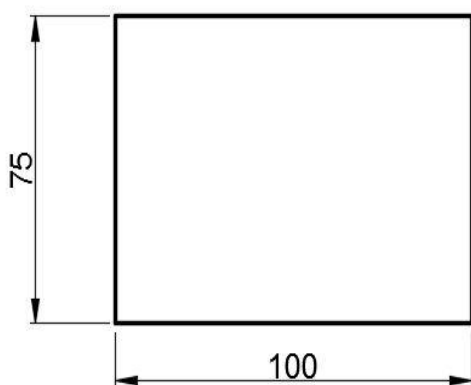

Fig 1
2. With the help of pedestal sheet cutting machine cut the mild steel sheet as per the fig 1.